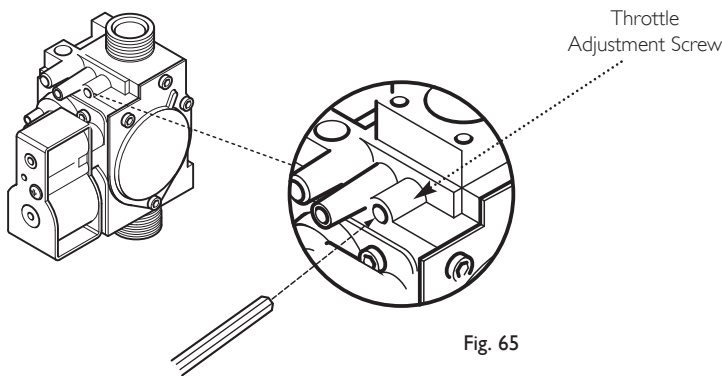

Fig. 65
**NOTE:** To assist the boiler to light prior to final setting, use a suitable hexagon key to wind out the Throttle Adjustment Screw until it is flush with the valve body, then turn the screw 4 full turns clockwise (Fig. 65). If the boiler will not light, or the correct CO2 cannot be achieved contact the Baxi Customer Support 0344 871 1545.